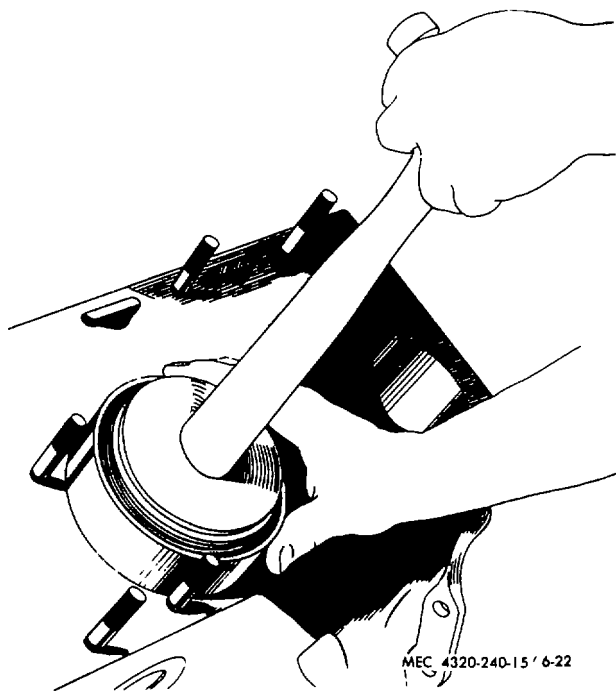

Figure 6-22. Piston installation using standard ring compressor.
(1) Refer to figure 6-22 and install connecting rod and piston sets in cylinder block, using standard ring compressor.
(2) Install rod bearings in connecting rods and rod caps.
(3) Tighten connecting rod capscrews to 57-59 ft-lbs of torque.
(4) Refer to paragraph 6-15c and perform operations described.